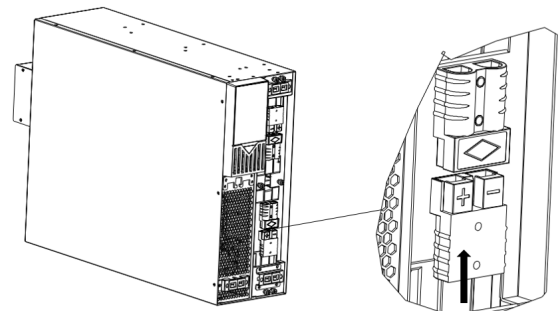

Figure 15
6. Re-connect the battery modules to the UPS. (FIG. 15)